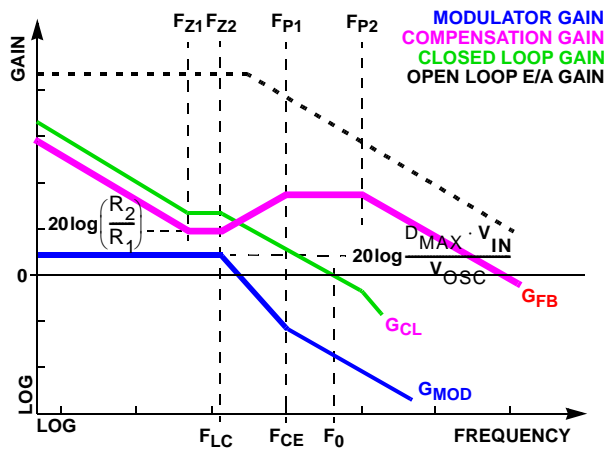

FIGURE 11. ASYMPTOTIC BODE PLOT OF CONVERTER GAIN
Figure 11 on page 11 shows an asymptotic plot of the DC/DC converter's gain vs frequency. The actual Modulator Gain has a high gain peak dependent on the quality factor (Q) of the output filter, which is not shown. Using the previously mentioned guidelines should yield a compensation gain similar to the curve plotted. The open loop error amplifier gain bounds the compensation gain. Check the compensation gain at F_{P2} against the capabilities of the error amplifier. The closed loop gain, G_{CL} , is constructed on the log-log graph of Figure 11 by adding the modulator gain, G_{MOD} (in dB), to the feedback compensation gain, G_{FB} (in dB). This is equivalent to multiplying the modulator transfer function and the compensation transfer function and then plotting the resulting gain.